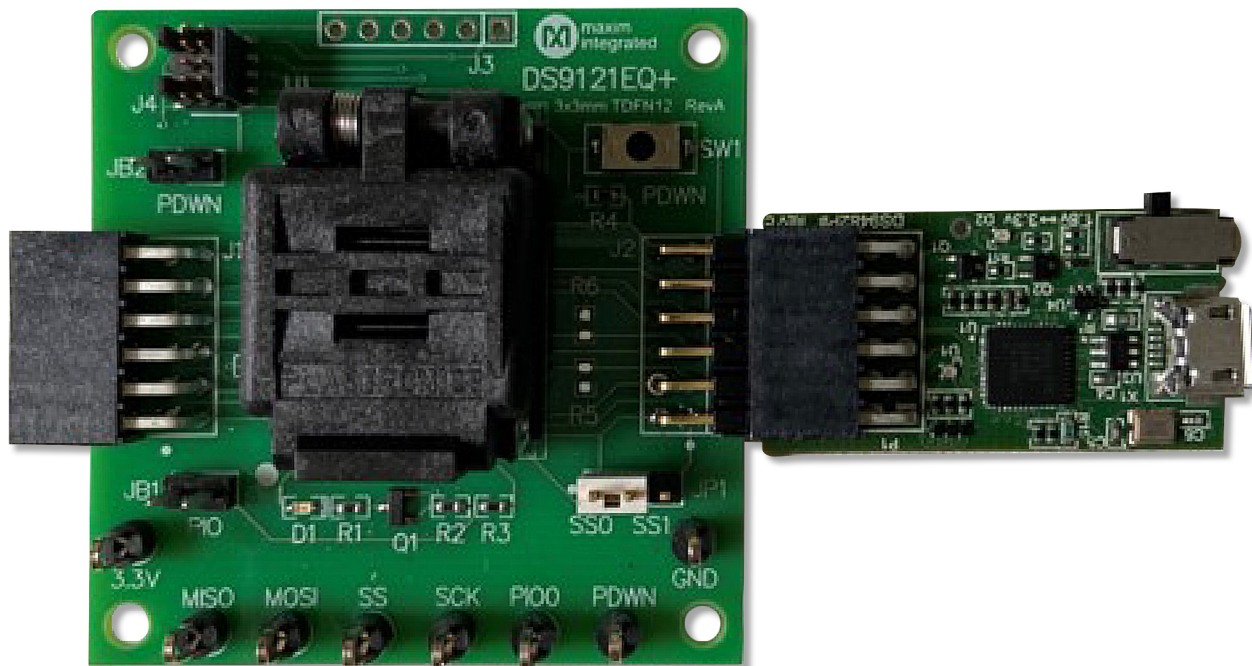

Figure 8. DS9482P# and DS9121EQ
- Connect the DS9121EQ J2 12-pin male plug into the DS9482P# 12-pin female socket per Figure 8.